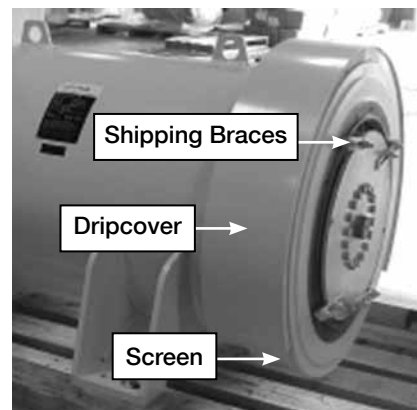

Figure 3-1
2. Remove the drip cover, screen assembly and shipping braces from the adapter and flex discs. (Figure 3-1)